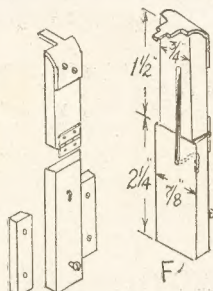

Fig. 3—Traveller details
The compressor, also cut from $\frac{1}{8}$ in. fretwood, should have the lower edges of its arms bevelled, as shown on the pattern; it can then be dropped on the bolt. The traveller, Fig. 3, can now receive attention. A front view of this part, shows it consists of two pieces of the $\frac{1}{8}$ in. wood, joined together with a small brass hinge. A rear view (F) gives the width and length of each part. The lower part has its side edges slightly bevelled, and is fitted to slide up and down between side strips, also bevelled to suit. The side strips should not exceed $\frac{1}{8}$ in. in width.